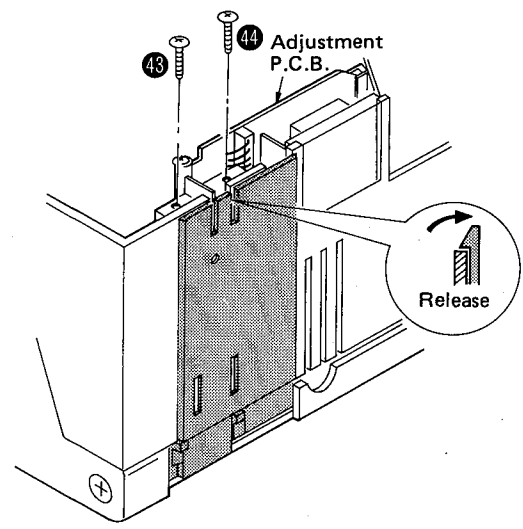

Fig. 10
4. Remove the 2 setscrews (Fig. 10 : 37, 38) of the dust cover. Then the dust cover can be removed.